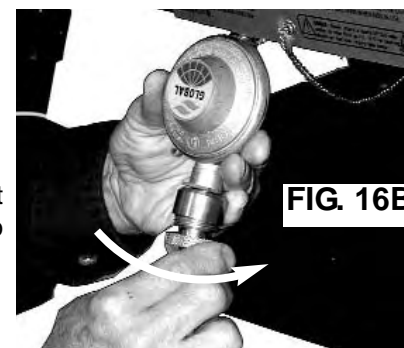

FIG. 16B
**STEP 4B.** Run the other end of the hose under the Leg shelf behind the leg. Grasp and hold the regulator with one hand. Push the hose end into the regulator nipple and turn the knurled knob clockwise. (FIG. 16B) Make sure the connection does not cross thread. Hand tighten to a snug connection. Do not use tools.